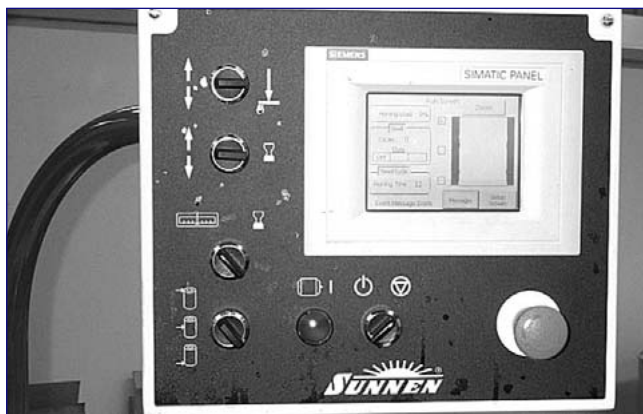

FIGURE 3-39, Dwell Cycle
12. If taper was evident when gaging the bore in step 1, set Dwell Cycle to required number of dwells. Approximately one dwell is required for each 0,025 mm (.001 in.) of taper, as determined in setup (see Figure 3-39).